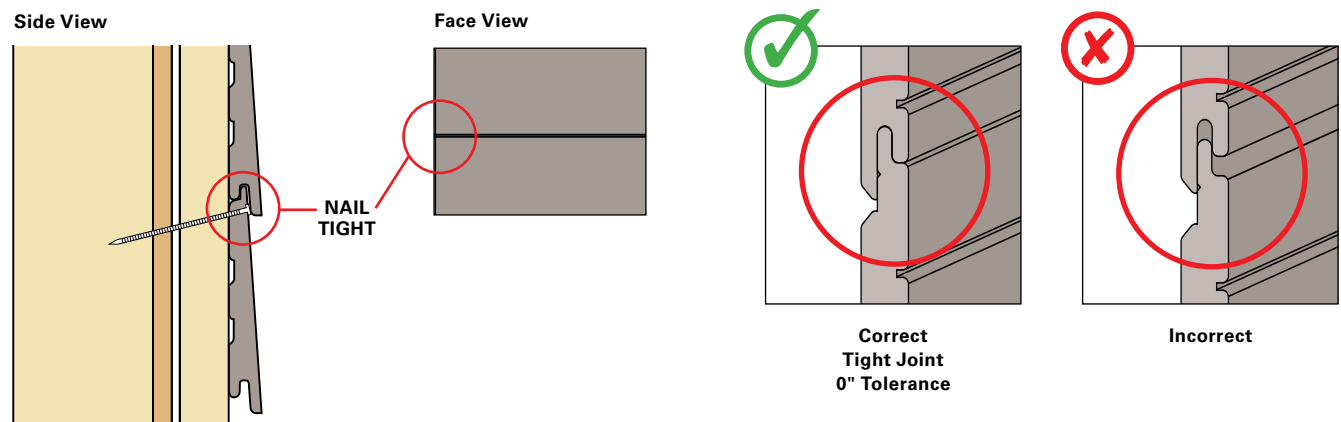

Fig. 28
- Once the starter course is in place, continue placing subsequent courses **tightly** together on both horizontal and end joints. (See Figure 28)